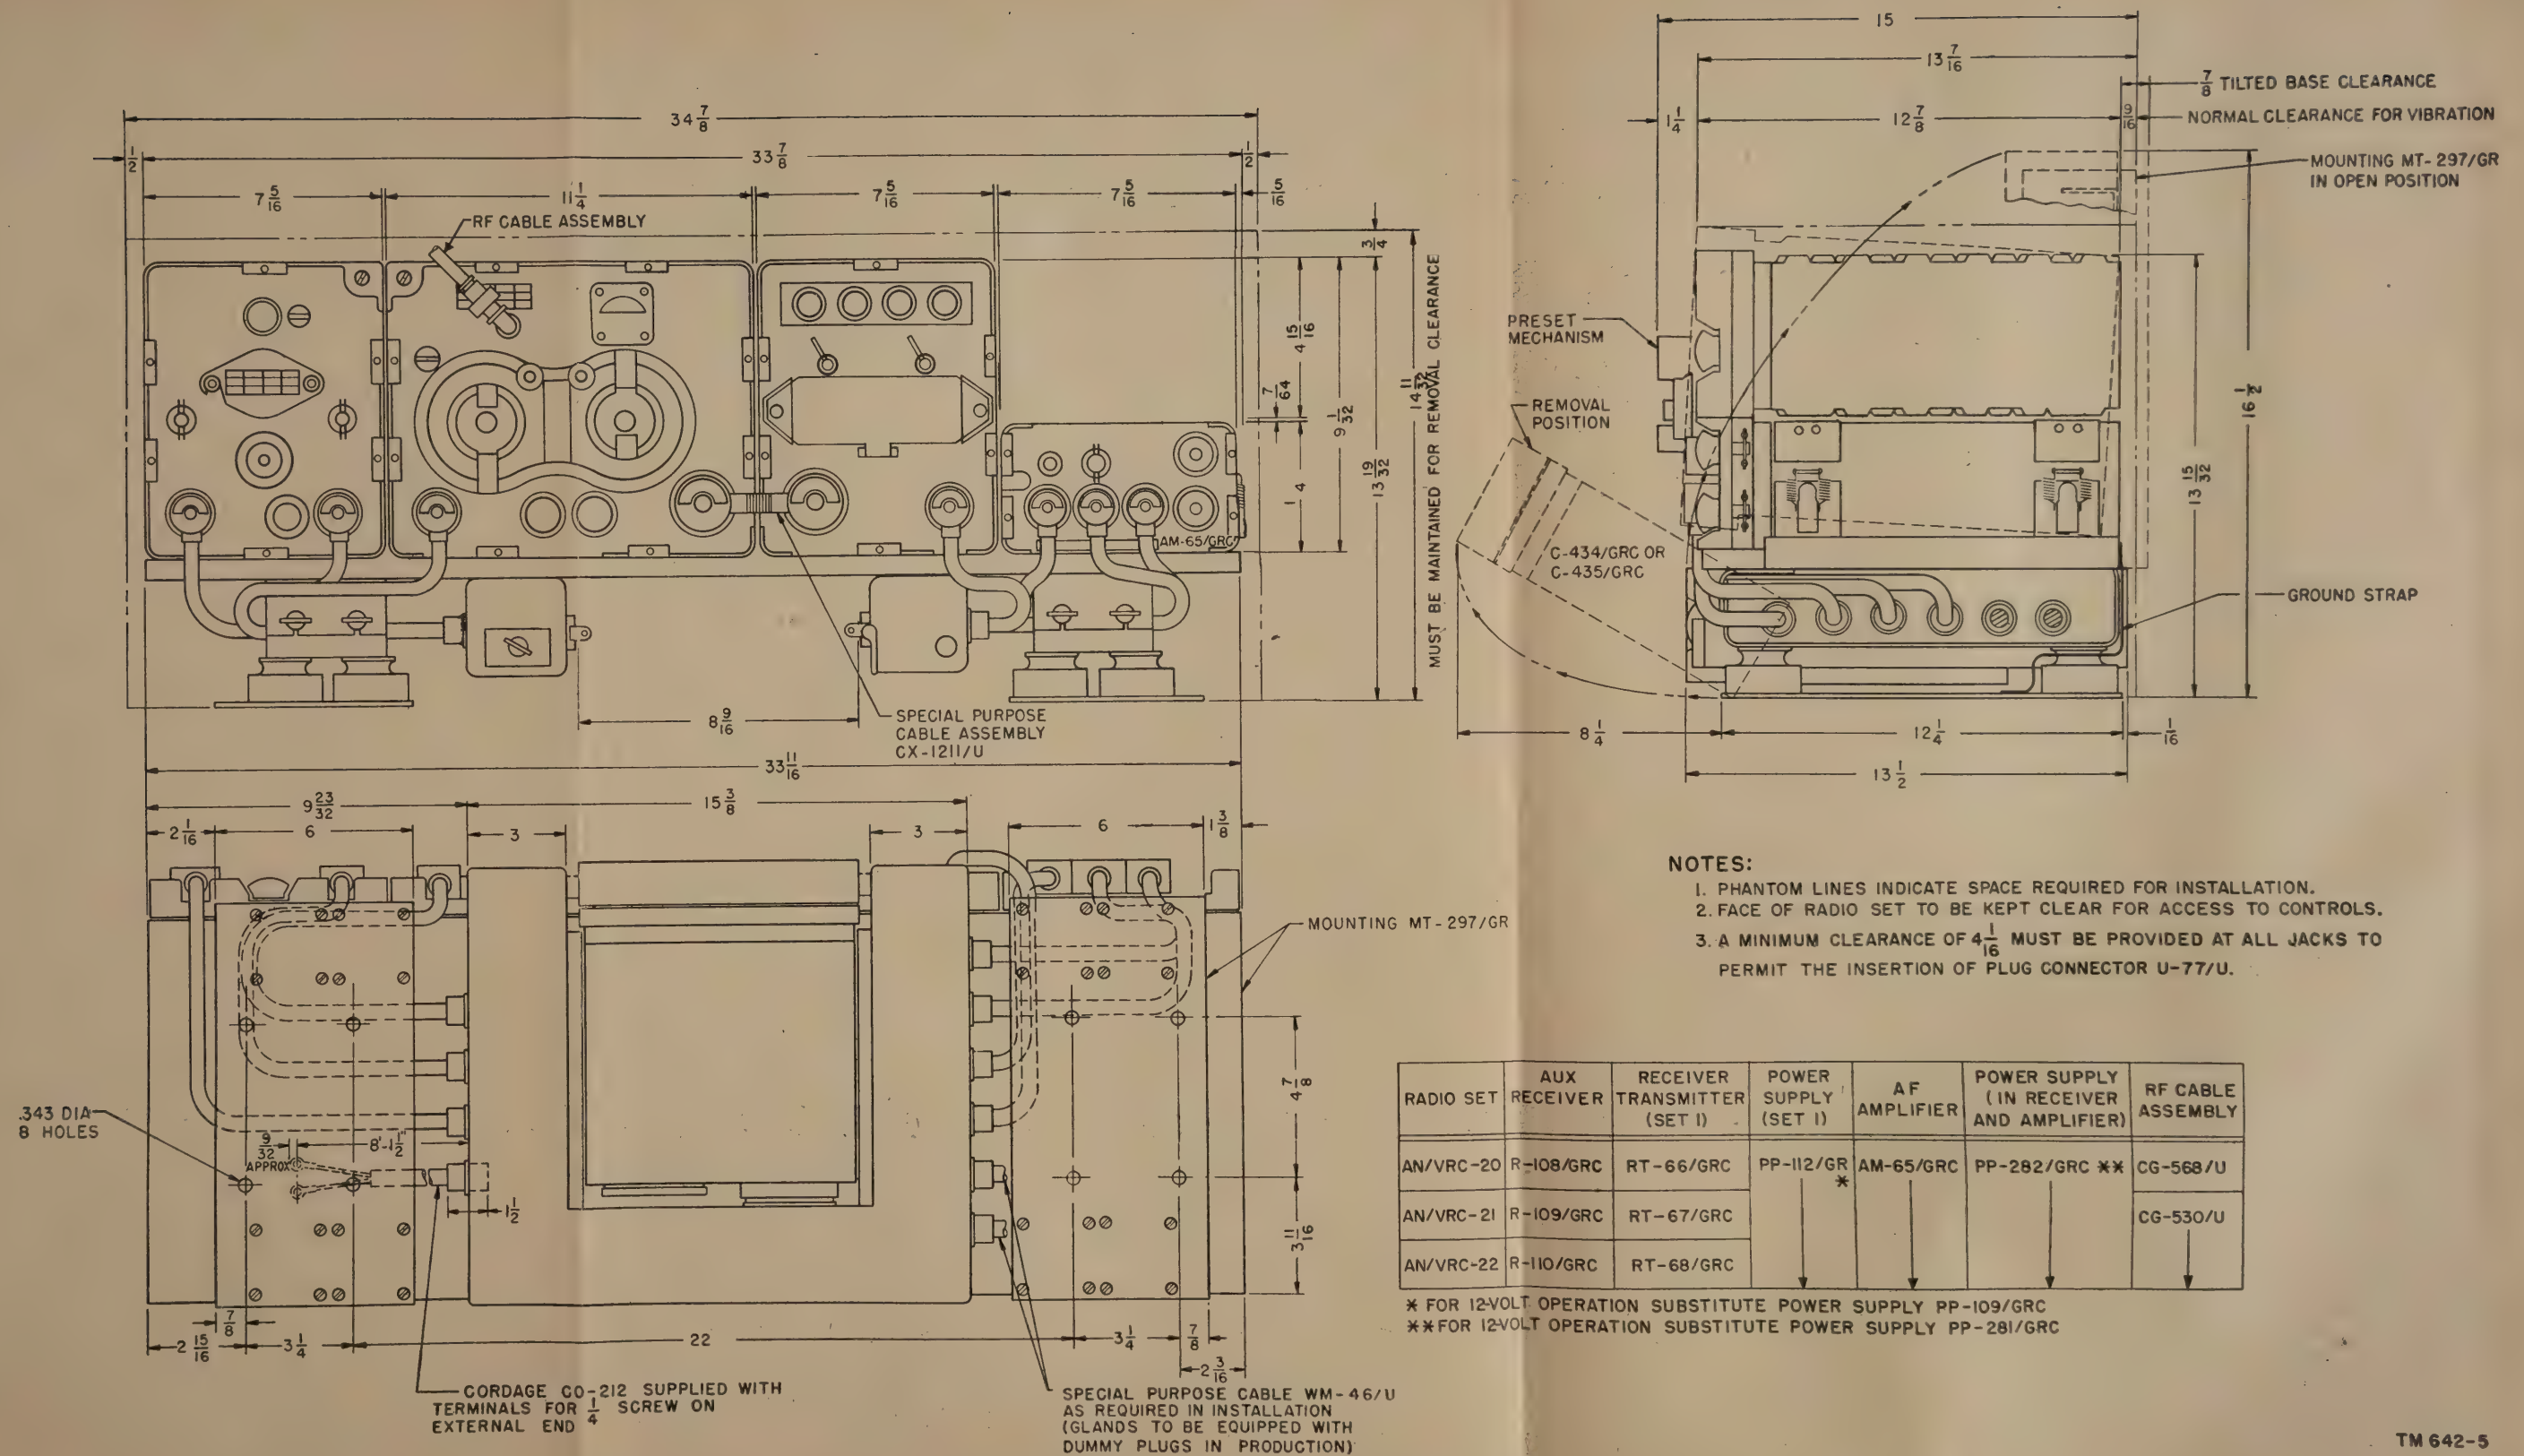

Figure 18. Radio Sets AN/VRC-20, -21, and -22, outline drawing.
a. Locate and secure Mounting MT-297/GR in place according to instructions for the particular vehicle. Allow the minimum clearances as indicated in figure 18. Complete all external connections.
j. Spot and drill the eight mounting holes in accordance with the dimensional data (fig. 18). Bolt the mounting to the vehicle.